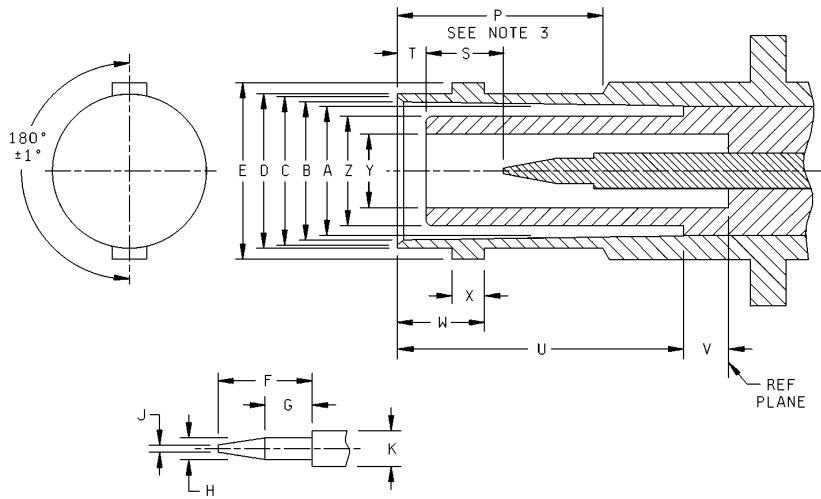

Figure 28: MIL-STD-348B _ CHG-3 page 89. S = 4.78-5.28 mm, T = 1.55-1.98 mm.
- (c) MIL-STD-348B specifies the allowable pin position. Measure the depth of the dielectric in the connector and use the measurements of the pin and end of connector from the end of the tube to determine if the pin will fall in the acceptable range. Pin depth in dielectric = connector end distance from tube - pin distance from tube - depth of dielectric from connector end, which must be between 4.78 mm and 5.28 mm (S in figure 28). If the pin position falls outside this range print a ground isolation electric break with a different length to adjust the pin position.